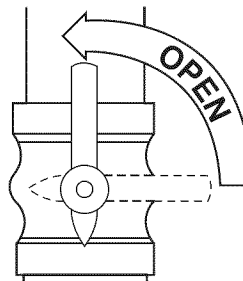

Fig. 15 - Open Valve
- Open the external manual gas valve. See Fig. 15.